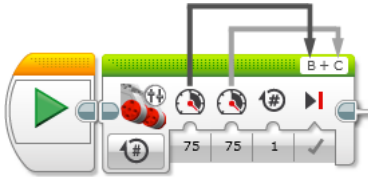

Figure 4-38: The Move Tank block
2. Drag the Move Tank block from the palette, and then connect it to the Start block, as shown in Figure 4-38.